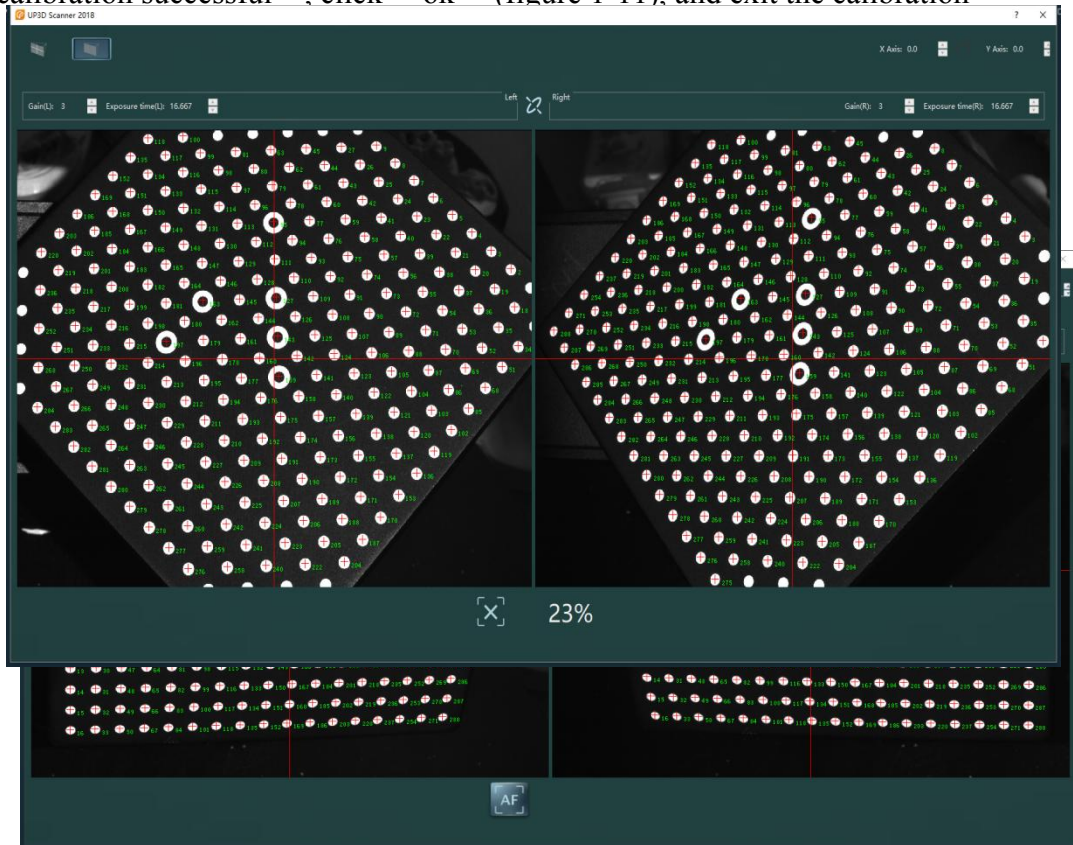

Figure 1-11 AF interface
- After click AF, the scanner starts to calibrate automatically (figure 1-10). In this process, the calibration progress bar will be displayed at the bottom of the interface. Please wait for the camera to automatically complete the 13-step image acquisition and processing, after shows ‘calibration successful’ , click ‘ok’ (figure 1-11), and exit the calibration